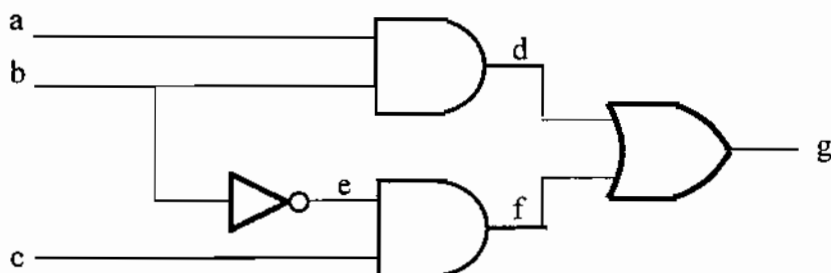

Figure 4c Combinational circuit to be tested
- d A partially completed fault detection table for the combinational circuit of figure 4b is illustrated in fig 4c (see attached sheet at end of examination paper). Complete the fault detection table and derive a minimal test vector set for the circuit. **5 marks**
Submit figure 4c with your answer sheet. Include your detailed test set derivation work.